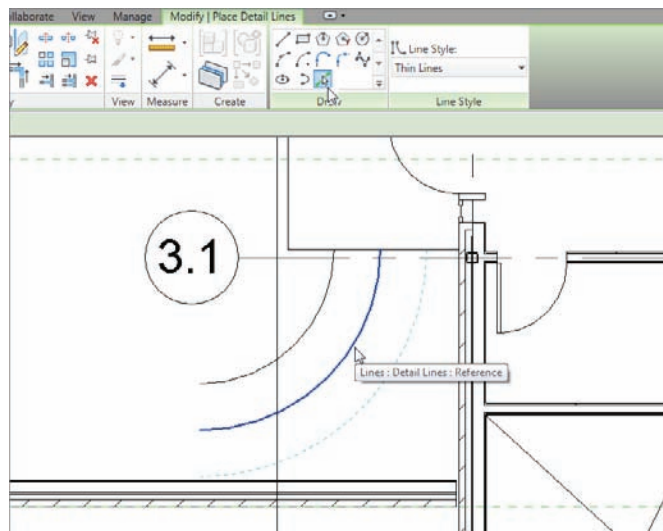

FIGURE 10.38 Adding two more arcs based on the centerline of the first
10. On the Options bar, add an increment of 2'-0" (600mm) to the Offset field (see Figure 10.38).
11. Offset the center arc to the right, and then to the left, forming a 4'-0" (1200mm) overall winder, as shown in Figure 10.38.